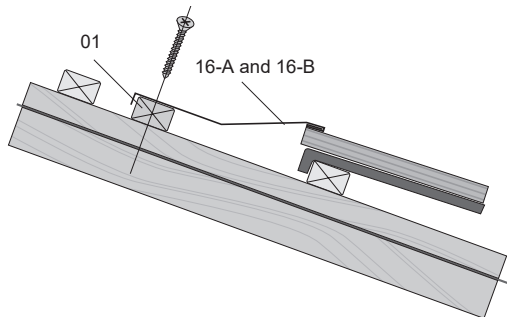

Figure 6-9: Installation of Bottom Flashing
2. Fit the bottom flashings. See Figures 6-9 to 6-11.